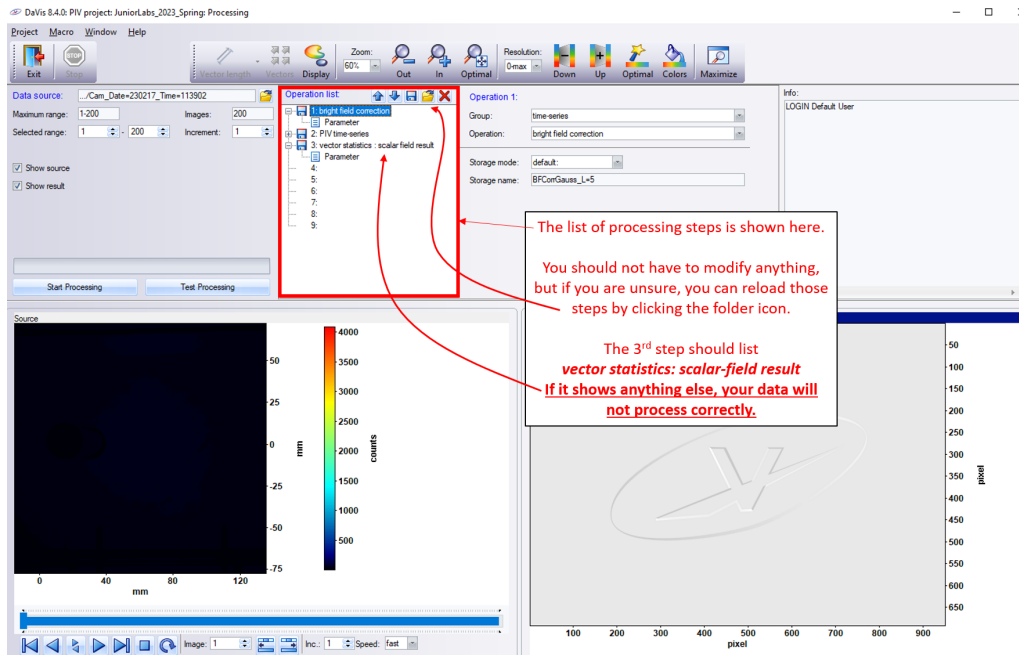

Figure 12: Processing module - Operation list.
- If the steps shown in the software are different (particularly if step c (vector statistics) shows **vector field** instead of **scalar field**), click Load icon from operation list, select **AOE 3054 Junior Lab PSV Processing** as shown in Figures 12 and 13. Make sure you click the "Load" button below the processing list once you selected it.
Figure 15: Available processed data if (a) the vector statistics results (see Figure 12 are set properly and (b) if the vector statistics results are set improperly